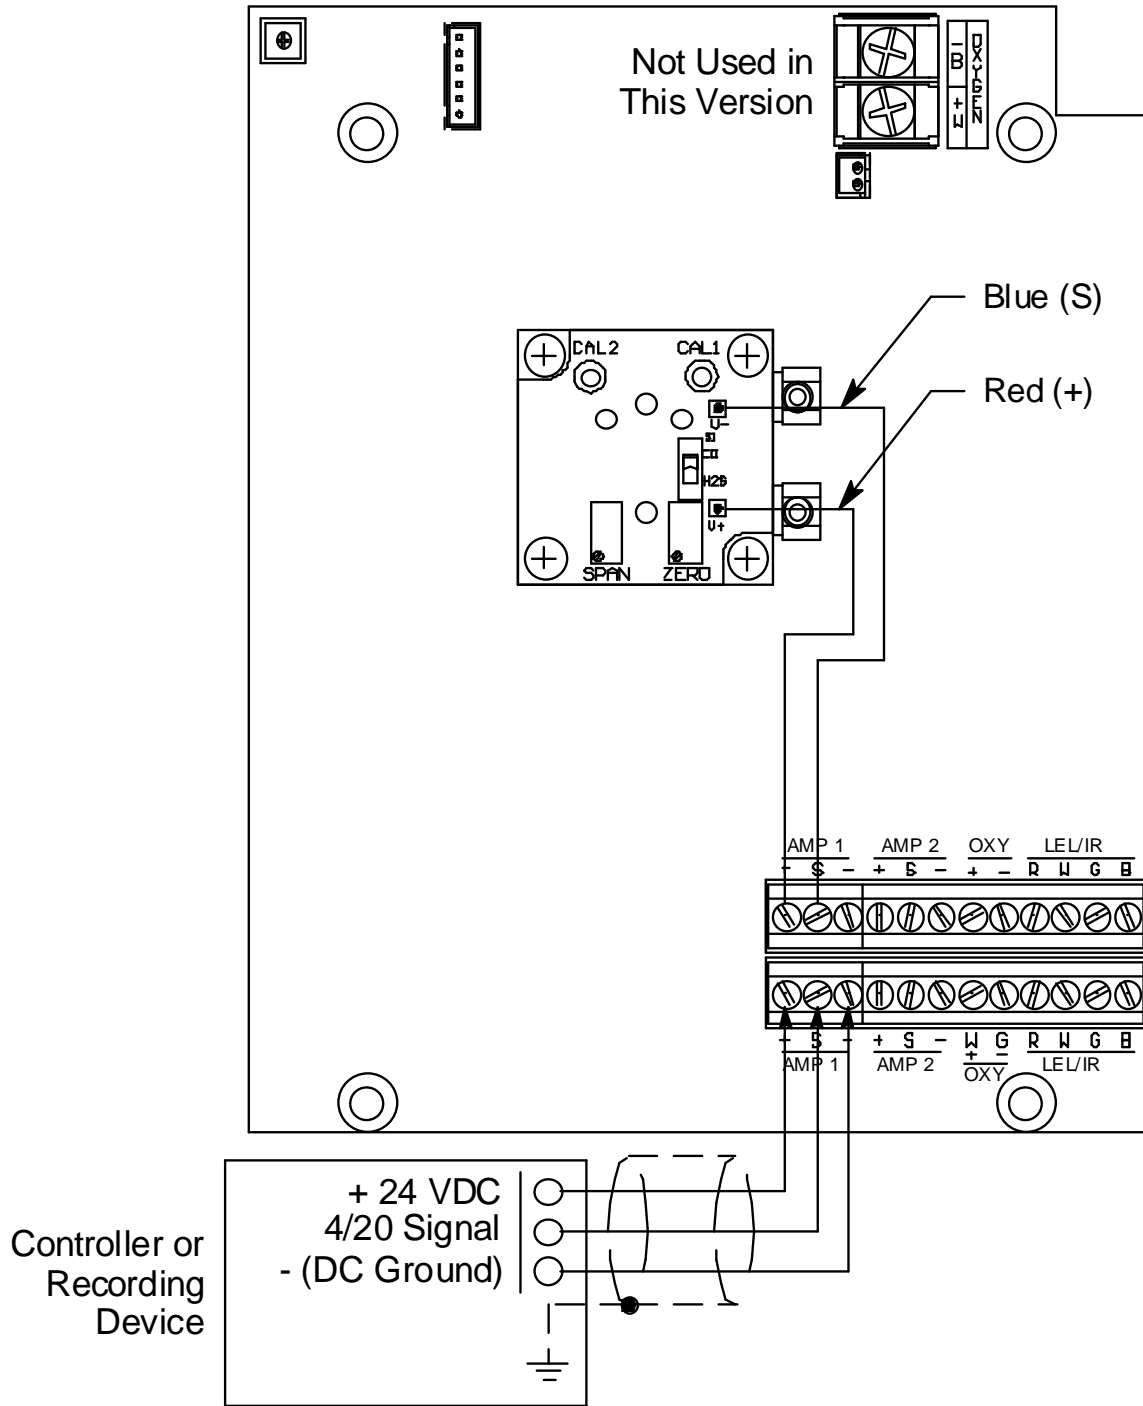

Figure 5: Wiring the Sample-Draw Detector to a Controller
5. Connect the cable to the sample-draw detector’s interconnect terminal strip as shown in Figure 5.
- Connect the wires to the applicable detector/transmitter terminal strip at the controller as shown in Figure 5. Refer to the controller operator's manual and the controller detector head specification sheet for the 35-3001-04 for detector/transmitter terminal strip connections specific to the controller.